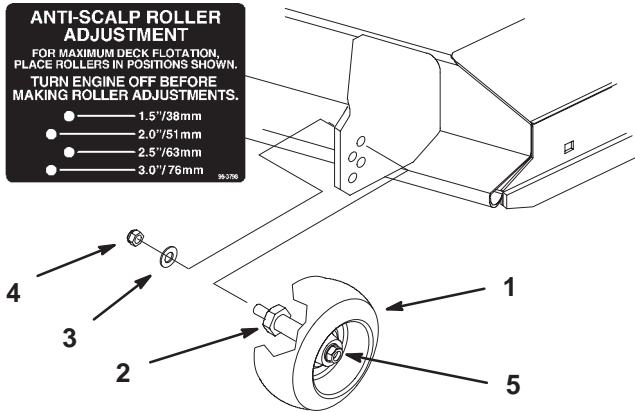

Figure 22
2. After adjusting height-of-cut remove flange nut and spring disk while holding stud with wrench (Fig. 22).
- Note:** Do not remove the wheel nut and washer (Fig. 22).
3. Select hole so gage wheel is positioned to the nearest corresponding height-of-cut desired (Fig. 22).
4. Reinstall the flange nut and spring disk. Torque to 40–45 ft–lb (54.2–61.0 N•m) (Fig. 22).